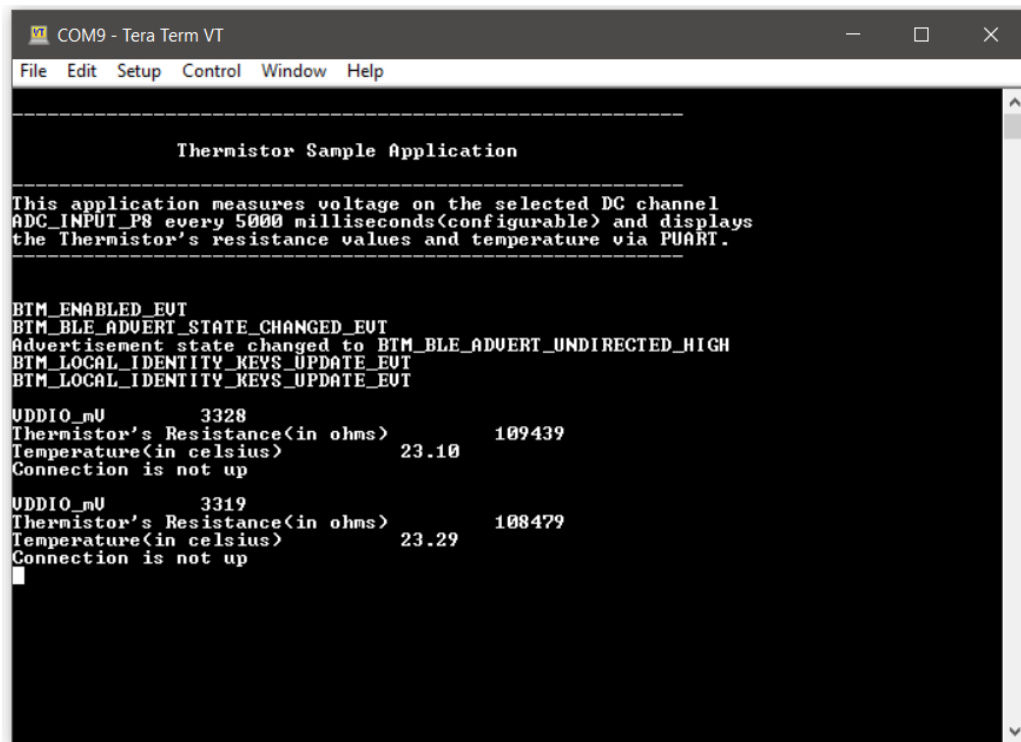

Figure 4-3. env_sensing_temp output
3. You will see the resistance of the thermistor and the equivalent temperature at an interval of five seconds as shown in Figure 4-3.